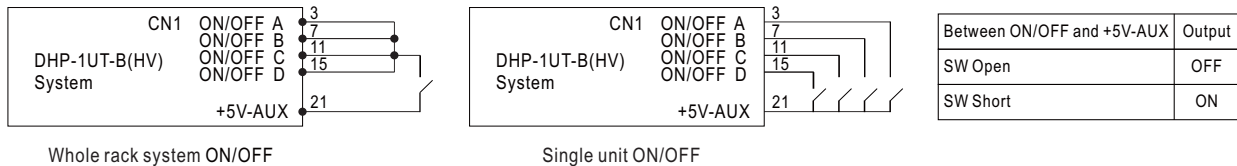

Figure 4-1 Connection of Remote Control
- ※ Built-in remote ON/OFF control circuit, refer to Figure 4-1 for control methods of single unit or whole rack system.